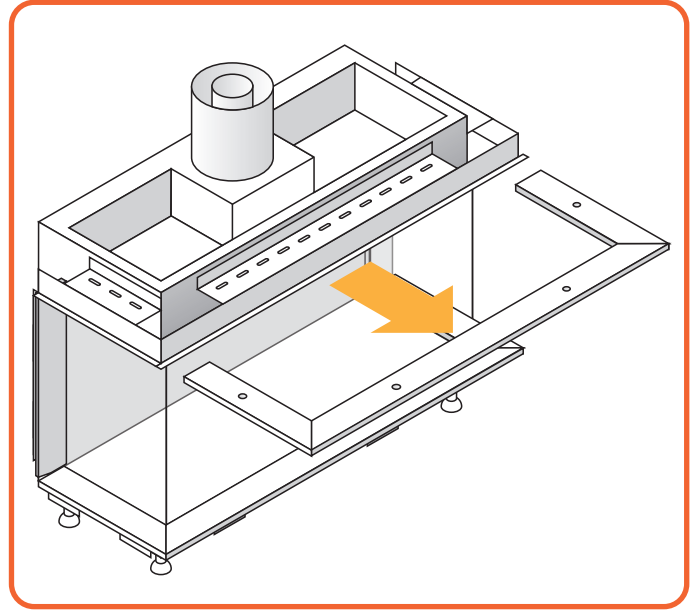

Figure 9.3 | Remove top trim
- Remove the top trim, Figure 9.3